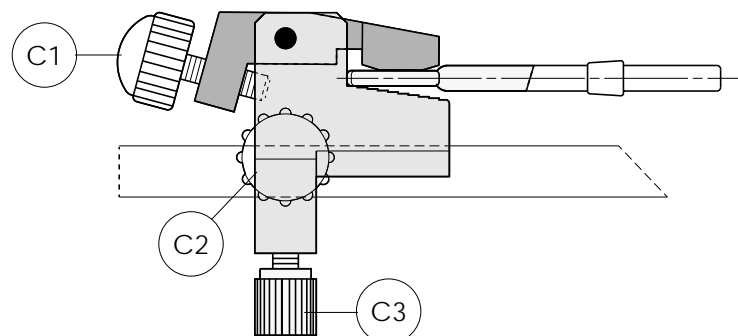

Fig. 17
- 3) to fit headclamp loosen screws (C1), (C2) and (C3) (fig. 17), slide the headclamp over the head of the key, ensure that the bit of the key is horizontal and re-tighten the screws in the following order: (C1), (C2) and (C3).
- 4) fully tighten thumbscrew (B).